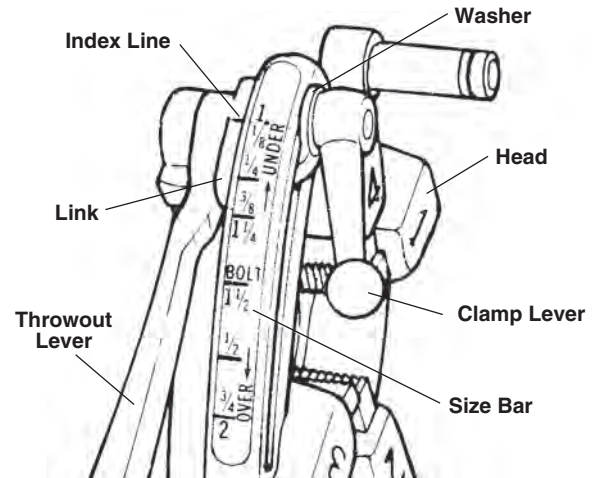

Figure 8 – 811-A Quick-Opening Die Head
6. Quick-Opening 811A Die Head (*Figure 8*) – When thread is completed, raise throwout lever to open position, retracting dies.
The 811-A Universal Die Head (*Figure 8*) for right-hand threads requires four sets of dies to thread pipe ranging from $\frac{1}{8}$ " through $1\frac{1}{2}$ ". One set of dies is required for each of the following pipe size ranges: ($\frac{1}{8}$ "), ($\frac{1}{4}$ " and $\frac{3}{8}$ "), ($\frac{1}{2}$ " and $\frac{3}{4}$ "), and (1" through $1\frac{1}{2}$ "). Bolt threading requires a separate set of dies for each bolt size.